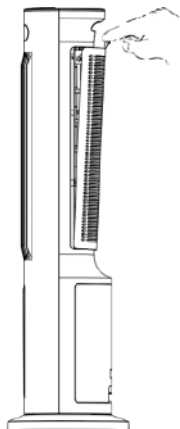

Fig.2
2. As shown in Fig.2, press the water tank handle upwards and pull out the water tank; You can pull out 3/4 of the position to add water directly. When adding water, pay attention to that the amount of water added should not exceed the "max" line. If necessary, you can take out the water pump and the water tank to fill the water, and then install the water tank and water pump back for use. The water level must be lower than "max." line and higher than the "min." line when adding water. When cooler wind is required, add ice boxes (or ice cubes) into the water tank. Caution: The water level should also lower than the "max." line after ice boxes (or ice cubes) are added.